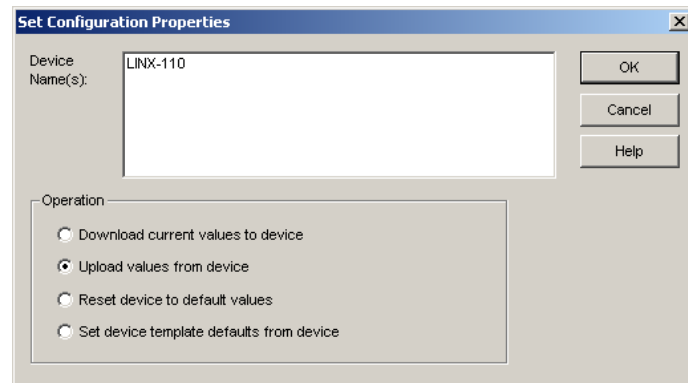

Figure 108: Set Configuration Properties in LonMaker TE.
2. This opens the dialog shown in Figure 108.